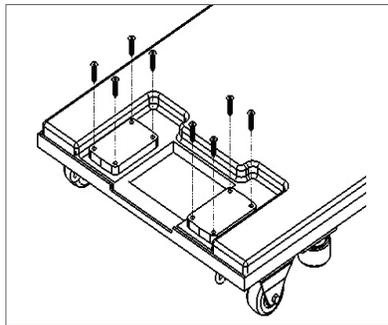

Figure 5
- Remove screws and wood blocks from the new carriage. Discard the removed screws and wood blocks. See Figure 5.